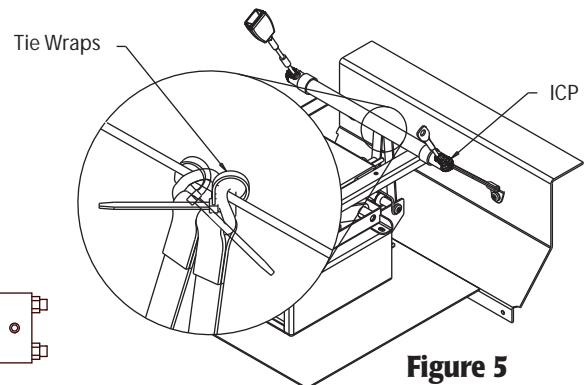

Figure 5
4. Connect hook into ICP cable as shown. See FIGURE 5.
5. Place two tie wraps (supplied) around hook and cable as shown in detail in Figure 5 and pull tightly. The tie-wraps assures hook maintains engagement with the cable.